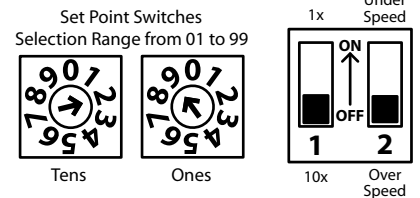

Figure 6: Setpoint Setup
1. Determine whether the relay should de-energize when the shaft speed drops below the set point speed (Under Speed Operation,) or when the shaft speed goes above the set point speed (Over Speed Operation.) Use the Over/Under Speed Selection Switch to place the LRB 1000 in the desired mode (see Figure 6, for switch position.)